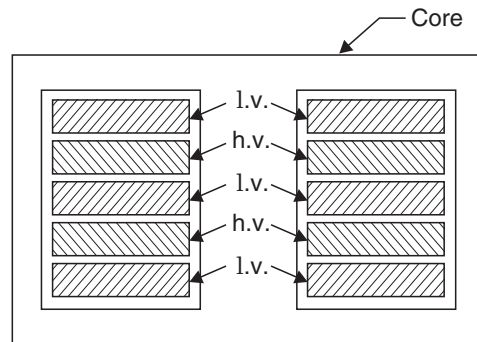

Fig. 11. Sandwich coils.
2. Sandwich coils. Sandwich coils (Fig. 11) are employed in transformers of *shell type*. Both high and low voltage windings are split into a number of sections. Each high voltage section lies between the low voltage sections.